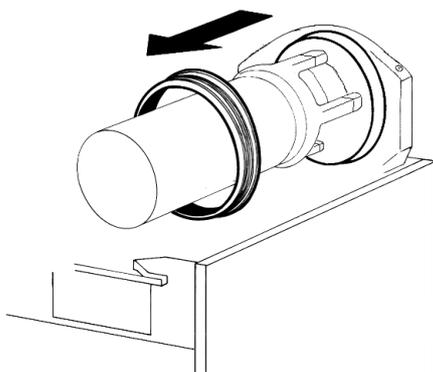
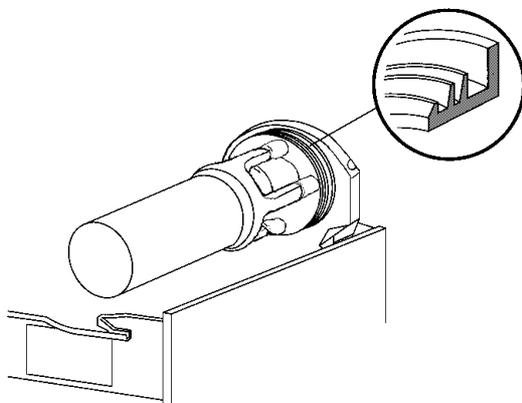

figure 9
figure 12
4 - Remove the bowl gasket from its seat (see figure 9).
- 2 - Lubricate faucet piston, inside auger and outer spiral (see points A, B and C of figure 12) only with the grease supplied by the manufacturer or other **food grade approved** lubricant.
- 4 - Fit bowl gasket around its seat (see figure 9). Note: the largest brim of gasket must face against the rear wall (see figure 12).